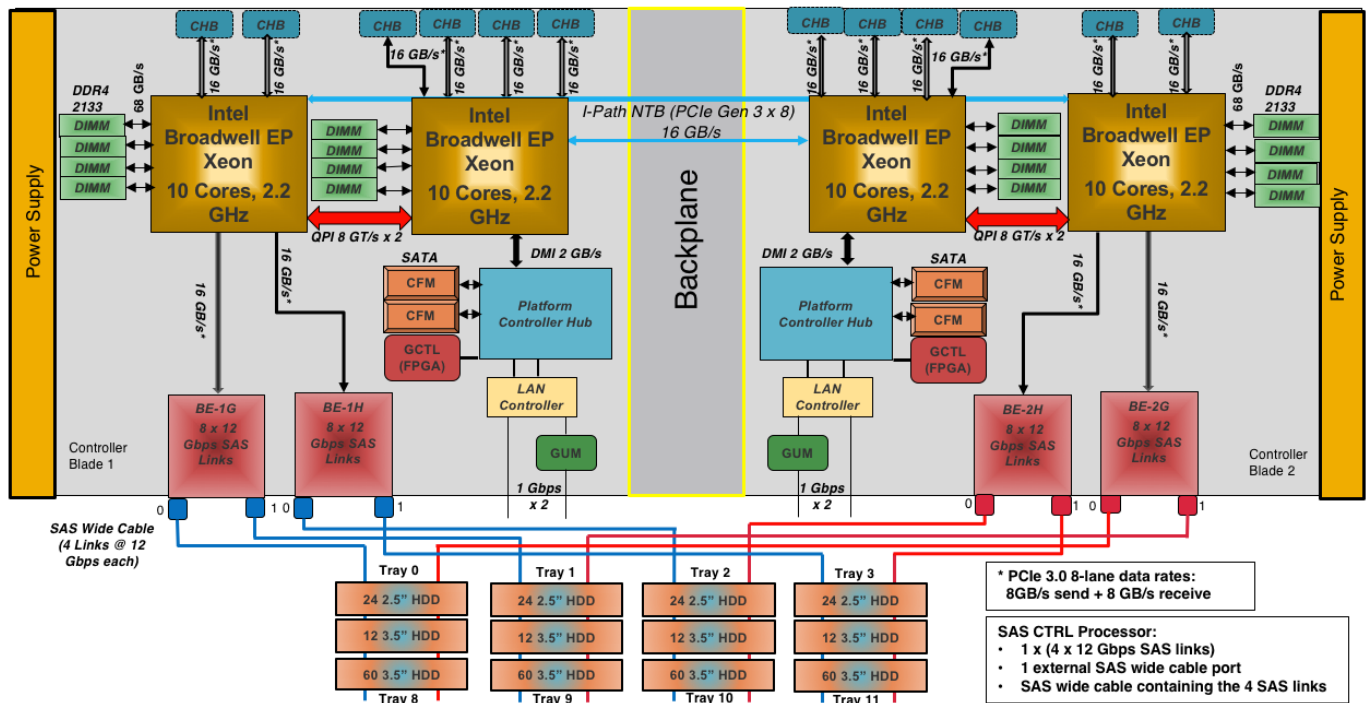

Figure 7: Block Diagram Overview of the VSP G900 Controller
- Standard Back-end (shown in *Figure 7*) with 4 BE modules (each with 2 ports, 4 x 12 Gbps SAS links per port, 32 links total):
- Standard Back-end (shown in Figure 7) with 4 BE modules (each with 2 ports, 4 x 12 Gbps SAS links per port, 32 links total):